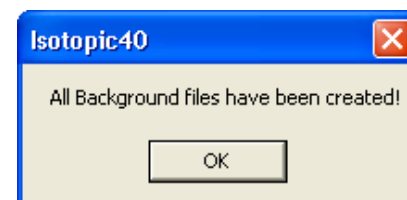

Figure 109.
- Prepare the detector, remove all sources, and click **OK** to start data collection. At the end of the count, enter a **Sample Description** if desired. ISOTOPIC will analyze the spectrum file, create the background file, and display the dialog shown in Fig. 109.